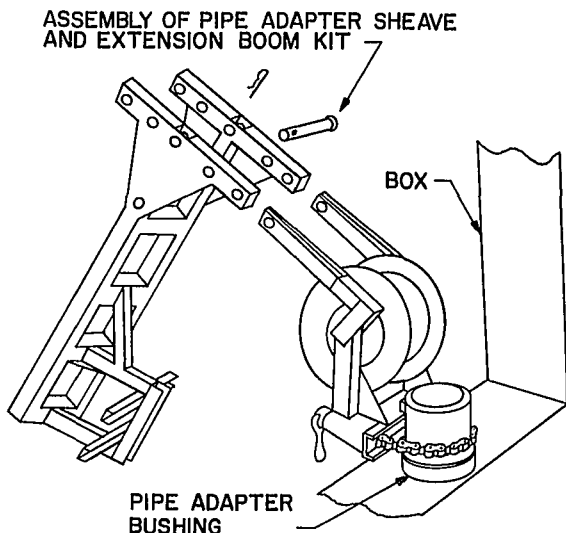

FIG. 16 ASSEMBLY OF PIPE ADAPTER SHEAVE AND EXTENSION BOOM KIT (PARS. 7.1, 7.2)
7.1 The attachments furnished with the R-4146 puller permit a wide variety of arrangements. Det. 2 Pipe Adapter sheave is used to pull cable or wire from an open box or a dead end pipe. Figure 16 and 17 show a typical application. Adjustable vise chains with hand screws quickly anchor to conduit, pipe, pull boxes or structural beams. No wrenches or special tools are needed.
7.2 The extension boom kit consists of the pipe adapter, bushings and "T" boom. It is used to pull wire or cable at flush mounted boxes. See Figures 16, 18 and 19. The bushings furnished with the Bit are 2", 2-1/2", 3" and 4". The "T" boom extension provides for height adjustments and provides stability.